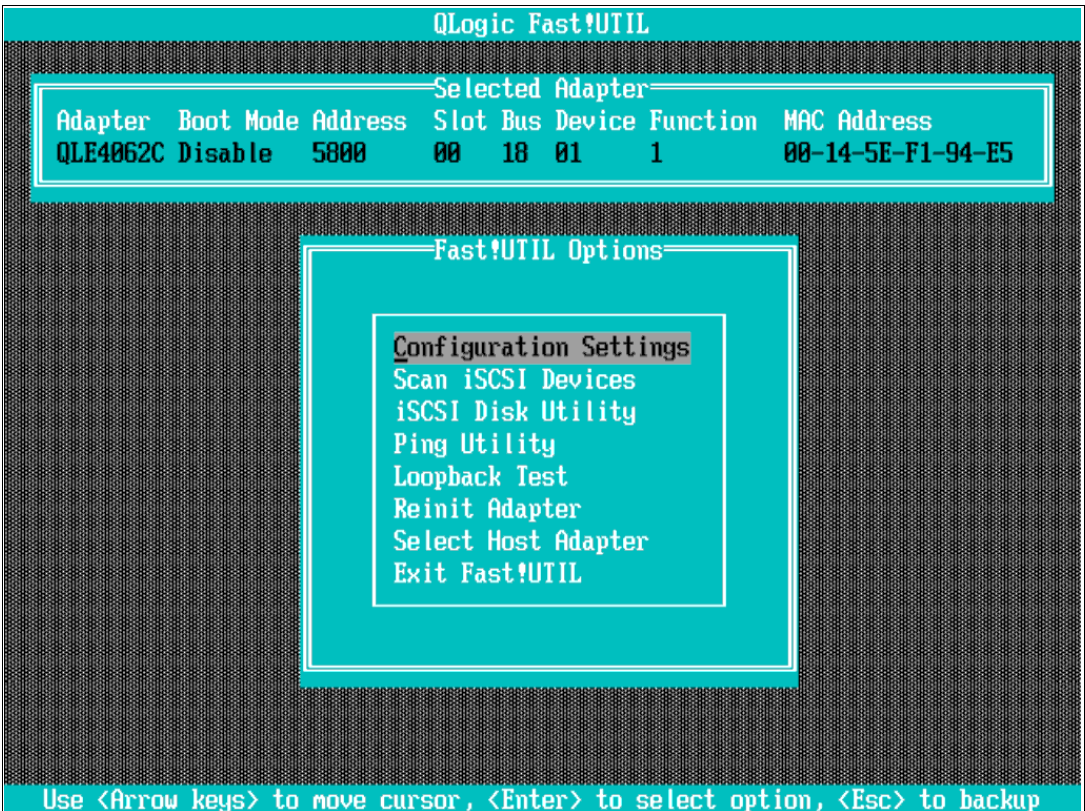

Figure 5-60 Fast!UTIL Options menu window
3. From the QLogic Fast!UTIL menu, select the first host bus adapter port (port 0) and press Enter. You see a window similar to Figure 5-60.